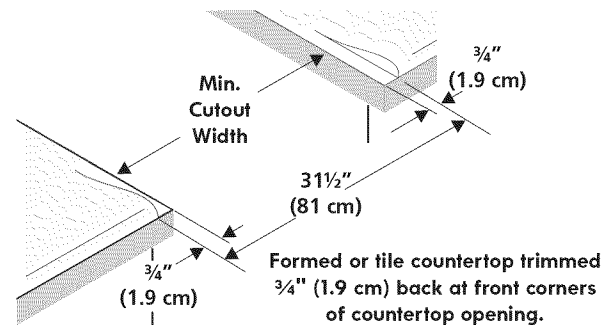

Figure 1
1.2 Countertop Preparation (figure 1)
- Formed front-edged countertops must have molded edge shaved flat 3/4" (1.9 cm) from each front corner of opening (Figure 1).
- Tile countertops may need trim cut back 3/4"(1.9 cm) from each front corner and/or rounded edge flattened (Figure 1).